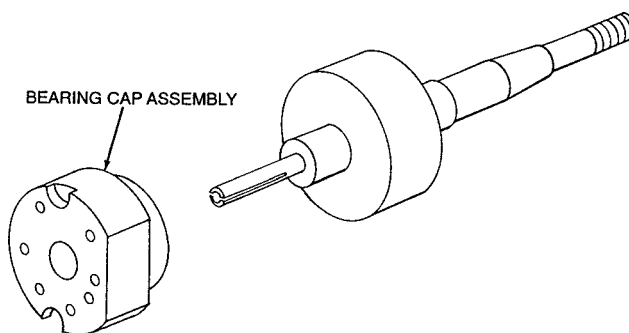

Figure 7.11A
- C. Press rotor shaft (10) out of bearing cap assembly (11) far enough to place both halves of T121 bearing puller between bearing cap assembly (11) and rotor magnet head (10).
- D. Continue to press rotor shaft (10) until bearing cap assembly (11) is free. (See Figure 7.11A).
- E. Discard bearing cap assembly (11).